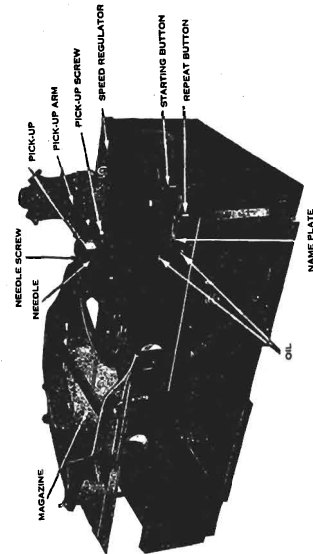
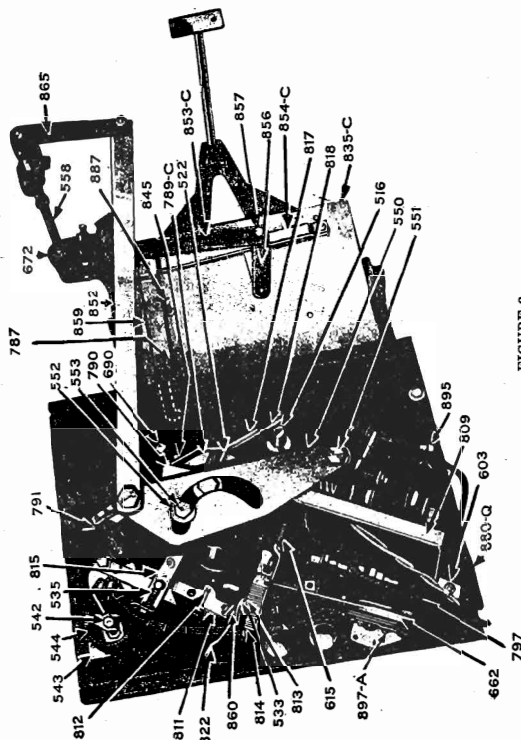
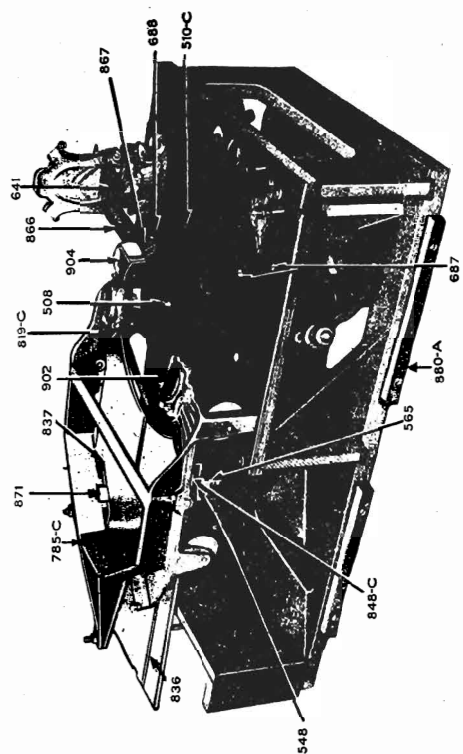

FIGURE 5
FIGURE 2
FIGURE 3
The position of the Kick-off Arm is regulated by (Fig. 2) finger A-7639 bearing against Cam A-6128. This finger is adjusted by the adjusting screws in adjusting block A-7637. The adjusting block is fastened to spindle A-6022 by set screw 1371.
Dog 813 *figure 2* for eccentric groove records and Spiral Trip Dog 533 for spiral groove records is attached to Pick-up Arm Lever 811 by means of Adjusting Stud 860 and Adjustment for Pick-up Lever 812. Pick-up Arm Lever 811 is attached to Pick-up Unit 904 *figure 3* by means of Yoke 867 and Pick-up Arm 866 which is connected to Bracket 810 *figure 4*, onto which Pick-up Arm Lever 811 *figure 2* is attached by means of two screws 155 *figure 4*. This whole device is allowed to swing from right to left due to its attachment to Standard 788 by the Dog Point Set Screws 823 which fit into the Bearing in Bracket 810.
When Trip Lever 814 *figure 1* is tripped, it allows Throwout Lever 822 to drop, and this causes Clutch Lever 816-C to push Clutch 526 into the Pins of Clutch Collar 527-C which is revolving; acting through Worm Gear 514-C which is driven by the Worm in Drive Shaft 793 connected to Motor by means of Drive Spring 877. The connecting of this Clutch causes worm shaft 524-C which is meshed with Cam Worm Gear 528-C to cause Cam 789 to revolve and lower the Turntable to the "swing back" elevation. This is accomplished by Lift Lever 817 *figure 2* which is operated by Cam 789 *figure 1* acting on the bottom of Turntable Shaft 507-C, through Turntable Lift 516 *figure 2* and Adjustment 818 to which the Turntable Shaft is attached.
Returning to the action of Cam 789 *figure 1* as it rotates further, Turntable 510-C's drops to the discard position, allowing the record to come in contact with Discard Rubber 650 *figure 4*. This raises the record above Receiving Stud 508 *figure 3* and the rotation of Turntable 510-C's then causes the record to be discarded into the Receiving Compartment.
Before the Cam 789 *figure 1* allows the Turntable to be moved into the discard elevation, and while the Turntable is still in the "swing back" elevation, the Pick-up Unit is swung away from the record by means of Index Lever 815 *figure 2* which is connected to the Pick-up Arm through Pick-up Arm Lever 811. The inner end of the slot in Index Lever 815 acts on Pin 763 *figure 1* that revolves with the Cam in a clockwise motion. It is through this means that the Pick-up is swung away from the record.
When Cam 789 *figure 1* starts to revolve, Eject Arm 790 *figure 2* also starts to revolve as it is driven by Dog 522. Roller 552 attached to Eject Arm 790, travels in the slot in Drive Lever 550 and causes it to move from the left to right, which moves Eject Slide 835-C and brings the center of the record over Receiving Pin 508 *figure 3* in Turntable 510-C's. This motion is caused by Drive Lever 550 *figure 2* acting through Link 852 attached to Lever 865 which is pinned to Shaft 558 connected to Top Lever 853-C which acts on Transverse Lever 854-C through Link 856. The Transverse Lever is connected to the twelve inch record Regulating Lever 859 which is fastened to Eject Slide 835-C by means of the Stud in the "L" shaped slot. This Stud remains in the "L" end of Lever
859 and allows Slide 835-C to place a ten inch record in the proper position over Receiving Stud 508 *figure 3*.
In case a twelve inch record is on the Slide, Centering Lever 850-C *figure 4* is pushed out by the twelve inch Regulating Lever 859 *figure 2*. Eject Slide 835-C moves forward, causing the Stud to leave the "L" end of the slot in Lever 859 allowing Eject Slide 835-C to travel just far enough to place a twelve inch record over Receiving Stud 508 *figure 3*.
Ten or twelve inch records can be used without discrimination. The engagement of the needle on ten or twelve inch records is controlled by Engaging Regulator Weight 872 *figure 4* acting on Cable 900 which is attached to Index Lever 815 *figure 2*. When the Weight is allowed to act, Index Lever 815 is pulled over and the long slot engages on Pin 763 *figure 1* causing the Pick-up Unit to swing into the proper place to engage on a 12" record. If Regulator Weight 872 *figure 4* is not allowed to act, Index Lever 815 *figure 2* is carried over by means of Drag Link 680 *figure 1* so that the short notch engages on Pin 763 and the needle engages at the proper place to start a 10" record. Whether or not the Weight 872 *figure 4* is allowed to act depends on Shaft 824 which, when under Weight 872, keeps the Weight from acting. Shaft 824 is controlled by Engaging Regulator Arm 787.
When a 12" record is fed out, Centering Lever 850-C *figure 4* is pushed out. The Finger on it carries Arm 787 out with it, swinging end of Shaft 824 from under Weight 872, allowing 872 to act. Shaft 824 will remain in this position until a 10" record is fed out of the Hopper. Thus, a 12" record may be repeated on the Turntable as many times as desired. When a 10" record is fed out of the Hopper, Eject Slide 835-C *figure 2* goes out farther over the Turntable, allowing Pin 887 to come in contact with Arm 787 causing it to move so that Shaft 824
Again returning to the motion of Cam 789 *figure 1* further rotation of this Cam causes the Turntable to rise to receiving elevation in time to receive the record which has been moved to the positions just described. The Turntable remains in this position while the Cam rotates further, allowing Roller 552 *figure 2* which is attached to Eject Arm 790, to travel in the slot in Drive Lever 550 and return Eject Slide 835-C to its original position. As soon as Eject Slide 835-C has returned to this position, Cam 789 *figure 1* has revolved to a position where it allows the Turntable to drop to the "swing in" elevation.
At this time Pin 763 *figure 1* has revolved far enough to connect with either the ten or twelve inch notch in Index Lever 815 *figure 2*. Its further revolution causes the Pick-up to swing in over the record so the Needle rests on the smooth part of the record as the Turntable is raised to reproducing elevation by means of Cam 789 *figure 1*. Regulating Weight Lever 872 *figure 4* on Standard 788 now causes the Pick-up to move over from the smooth part of the record to the first reproducing groove. Reproduction of the record begins at once.
When the Pick-up Unit first swings away from the record, Pick-up Arm Lever 811 *figure 2* passes under the tail of Throwout Lever 822 *figure 1*, causing it to rise to a position where the notch in Trip Lever 814 is allowed to enter its proper place under the lug in Throw-out Lever 822, holding Throwout Lever 822 in this
position after the Pick-up Arm Lever 811 *figure 2* no longer supports it. When the Throwout Lever is raised to this position, a spring tension is created which pulls on Clutch Lever 816-C *figure 1* attempting to pull back and open Clutch 526 but Clutch Lever 816-C is held in the engaging position by means of Control Disc 864-C until the Cam has completed its entire revolution when a notch in the Control Disc allows the Clutch Lever to follow the urge of the spring and disengage the Clutch.
In case it is desired to play the same record over, the repeat Button *figure 5* is moved to the left. This moves Repeat Lever 809 *figure 2* causing it to press against Drive Dog 522 causing the Dog to recede and not catch on Eject Drive Arm 790. Eject Drive Arm 790 remains stationary and the Eject Slide does not move. The Cam revolves and the Turntable goes through all of the elevating positions except the discard elevation. Eject Arm 790 does not allow Roller 845 to drop to the discard elevation in Cam 789 *figure 1*, thus the record will be repeated until the Repeat Lever is moved to the right.
When Eject Slide 835-C *figure 4* comes forward, the bottom record is caught between the "Y" shaped plates 836 and 837 *figure 3* which brings the bottom record forward with the Slide. The other records slide over the top of these "Y" shaped plates and remain in the Hopper. Only the bottom record is allowed to come out of the Hopper onto the Turntable. Other records are prevented from coming out by means of the two Admitters 819-C which are devised so they gauge themselves according to the thickness of the record. Thick, thin or warped records are fed out through the action of the admitters without injury to the records or mechanism. The admitters are held down against the record by means of springs and are adjusted by Screws 902. Back Stops 871 prevent records from sliding too far back in Hopper.
If a ten inch record is on the bottom and is not in the center, it is forced into the center by the two Centering Levers 850-C *figure 4* and 848-C *figure 3* which are held in position under tension by Springs 569 *figure 4* and 565 *figure 3*. These Springs are right and left hand and are attached to bushings in Studs, which have right and left hand threads and have a tendency to keep the spring from unscrewing the studs and nuts which hold them.
In starting or rejecting records, the Starting Button *figure 5* is pressed. When this Button is pressed slightly, it causes the contacts in switch 897-A *figure 2* to be spread apart which changes the fields in the motor from a series connection to a parallel connection for a greater starting torque. Pressing down further causes Lever 662 *figure 2* to act against Throwout Lever Trip 814 and trip mechanism which discards the record. This is the same action as though it were tripped with the Dogs 813 or 814.
Pick-up Switch 898-A *figure 4* is attached to the back of Standard 788. When the Pick-up is not resting on a record, the Pick-up Arm drops down, swiveling at Trunnion Pin 641, *figure 3*. This allows the Brake Shoe on Pick-up Arm 866 to rise and press against Cork Insert 623 *figure 4* which is in the Brake Adjustment 585. This retards the Swinging action of the Pick-up and allows it to move only when forced by Index Lever 815 *figure 2*. This Brake Adjustment 585 can be regulated to bring the Pick-up to the height desired and is locked in place by a nut.
Through the center of Brake Adjustment 585 is a Fibre Rod 590 *figure 4* which also rests on Brake Shoe 974 and is raised whenever the Brake is closed. The upper end of this acts on the Contact Spring in Switch 898-A and causes it to open the Switch and break the entire circuit, acting the same as the Clutch Switch in parallel with it. With both of these switches open, the power supply is entirely cut off. Also, when this switch is open a contact is formed with the upper part of the Switch which cuts out Speed Regulating Rheostat No. 544 *figure 2* and allows the full power to be used while the Cam is in the operating cycle.
upper side of the motor board *figure 5* are two (2) pipe plugs marked "OIL." Remove these plugs and inject a quantity of oil in the tubes under them. This lubricates both armature shaft bearings. The wick type oil wells used on the bearings keep the bearings well lubricated for a six (6) months period of normal operation.
**ADMITTERS 819-C FIGURE 3.** Use Adjusting Screw 902. Turning this screw in a clockwise direction raises the end of the admitter higher. The height of the admitter should be just enough to touch a record on the Eject Slide 835-C figure 2 when the slide is out.
**PICKUP UNIT TO STRIKE AT PROPER PLACE ON RECORD.** Use adjusting Screw 555 figure 2. The needle in the Pickup Unit should strike about 1/4 inch in from the outside edge of the record.
**PICKUP UNIT TO TRIP MECHANISM ON SPIRAL GROOVE RECORD.** Use adjusting Screw 812, figure 2. The mechanism should trip
**PICKUP UNIT TO TRIP MECHANISM ON ECCENTRIC GROOVE RECORD.** Use Adjusting Screw 860, figure 2. The tip of eccentric trip Dog 813 should be 1/32 inch above trip lever 814 before it starts to travel in under this lever.
**THE HEIGHT OF THE TURN-TABLE.** Use Adjusting Screws 818, figure 2. The height of the turn-table should be 2 1/4 inches from top of motor board to top of turn-table when the turn-table is in the record receiving, or highest, position.
Eject Slide should carry out a 10 inch Victor record to a distance where the tip of Receiving Stud 508, figure 3, enters the hole in the record at the front side of the hole. If a 10" Columbia record is used to make this adjustment, the stud should enter the hole in the record at the rear side.
**SPRING TENSION ON CENTERING LEVER 848-C and 850-C, FIGURE 4 and 3, RESPECTIVELY.** Use Adjusting Screws 847 and 849, figure 4. The spring tension on these levers must be equal and sufficient to hold the center of a record in a line with Receiving Stud 508, figure 3. If the tension is insufficient or unequal, Eject Slide 835-C, figure 2, will not center the record over turn-table 510-C. Loosen these screws and turn them to the right or left to increase or decrease tension as the case demands.